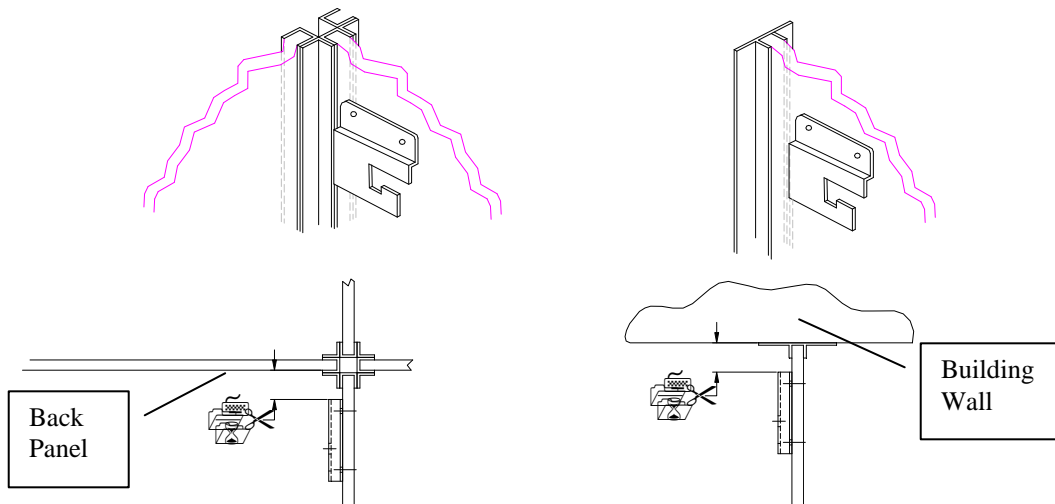

Figure 2.
2. Hold a support bracket so that the rear edge of the bracket is 1 7/16" from the back of the run. (Note: on back to back runs the bracket will be against the edge of the aluminum that frames the back edge of the Division Panel) Hold the top of the bracket even with the mark. Mark the wall for drilling through both holes in the bracket. See Figure 2.